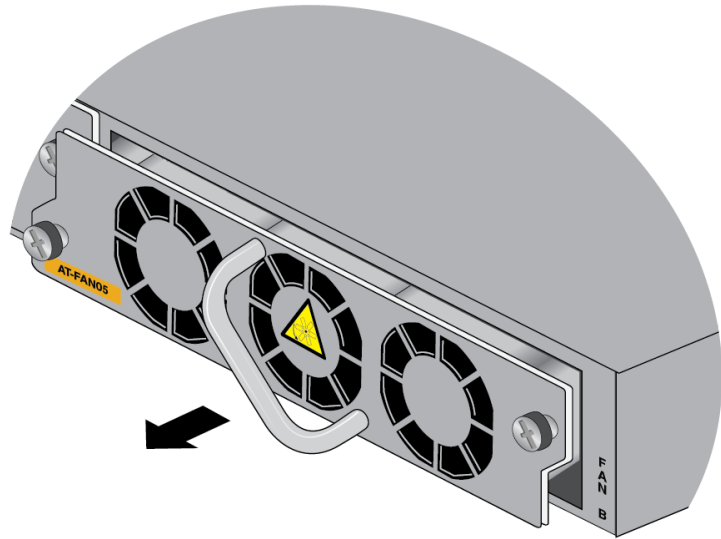

Figure 154. Disconnecting the FAN05 Module from the Switch
2. Carefully pull on the handle to disconnect the line card from the internal connector in the switch. Refer to Figure 154.